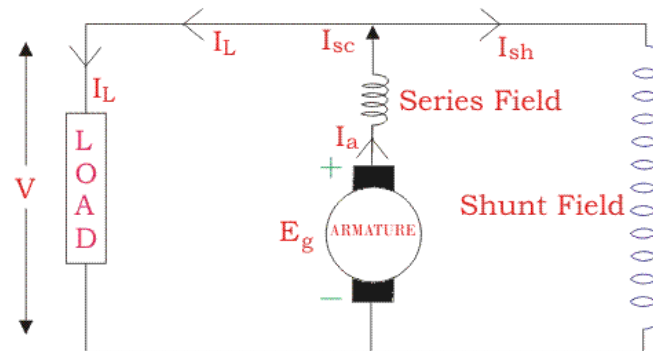

Figure.1.18. Long shunt DC generator – Compound wound.
1.6.3.3.2. Long Shunt Compound Wound DC Generator. Long Shunt Compound Wound DC Generators are generators where the shunt field winding is in parallel with both series field and armature winding, as shown in the figure 1.18.